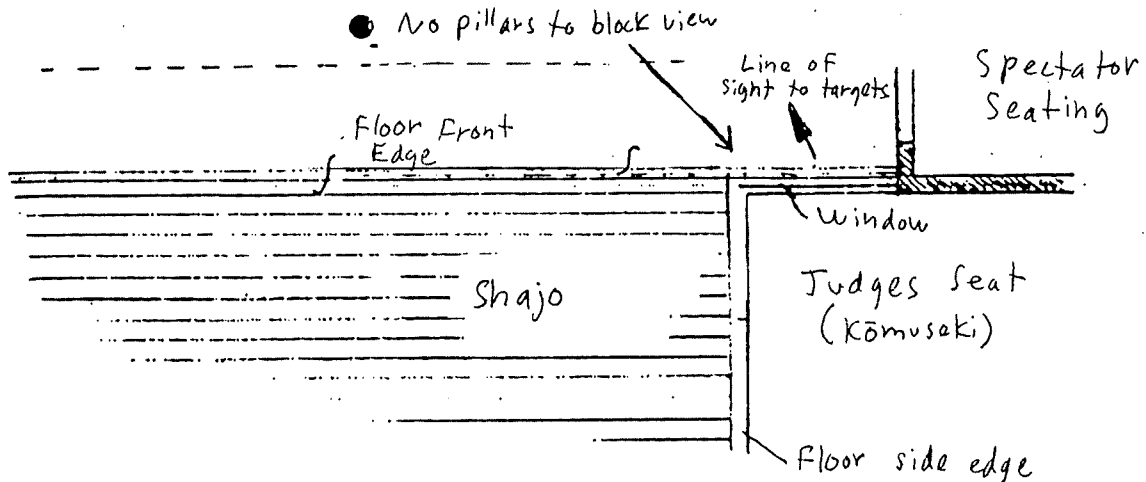

Figure 5 Layout of the Judges' Room And The Front Of The Shajo
4. So that the targets can be easily seen, there should be no pillars or walls on the front part of the side of the room facing the targets. See Figure 5.